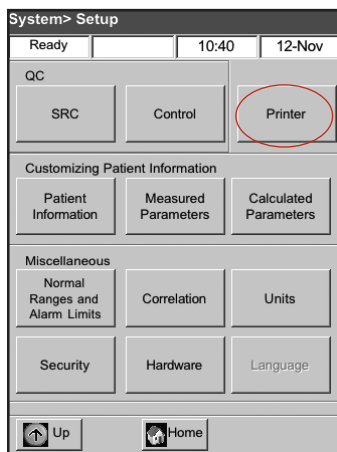

Figure H-4: System > Setup screen
3. From the Setup screen, tap **Printer** (Figure H-4).